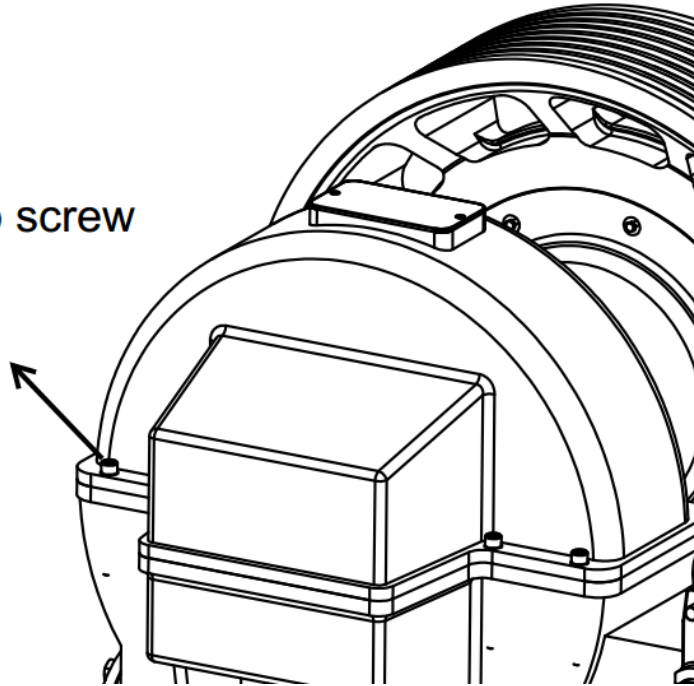

Figure 31 Reinstall top gear case
15. Insert, thread, and hand tighten the four Bolts (M10x35) and Washer 10. See Figure 31.